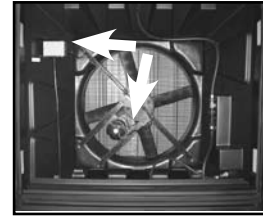

Figure 1
2) Motor is located in center of unit. Switch box is located in upper left. **(Figure 1)** Locate motor harness wire secured to fan bracket assembly using plastic ties. Cut and remove plastic wire ties. DO NOT CUT ELECTRICAL HARNESS WIRES.
2) Motor is located in center of unit. Switch box is located in upper left. Locate motor harness wire **(Figure 1)** secured to fan bracket assembly using five plastic wire ties. Cut and remove plastic wire ties. DO NOT CUT ELECTRICAL WIRES.
- 2) Pump is in lower right of unit. Control box is in upper left. Locate pump wire (⚡) secured to fan bracket assembly using plastic wire ties. Cut and remove plastic ties. DO NOT CUT ELECTRICAL WIRES. (Figure 1)
(Figure 1)
(Figure 1-A)
(Figure 1-B)
(Figure 1-C)